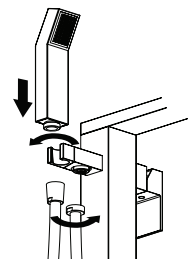

Figure 30
11. Connect the cold and hot water inlets as shown in Figure 30. Turn on water supply and check for leaks.